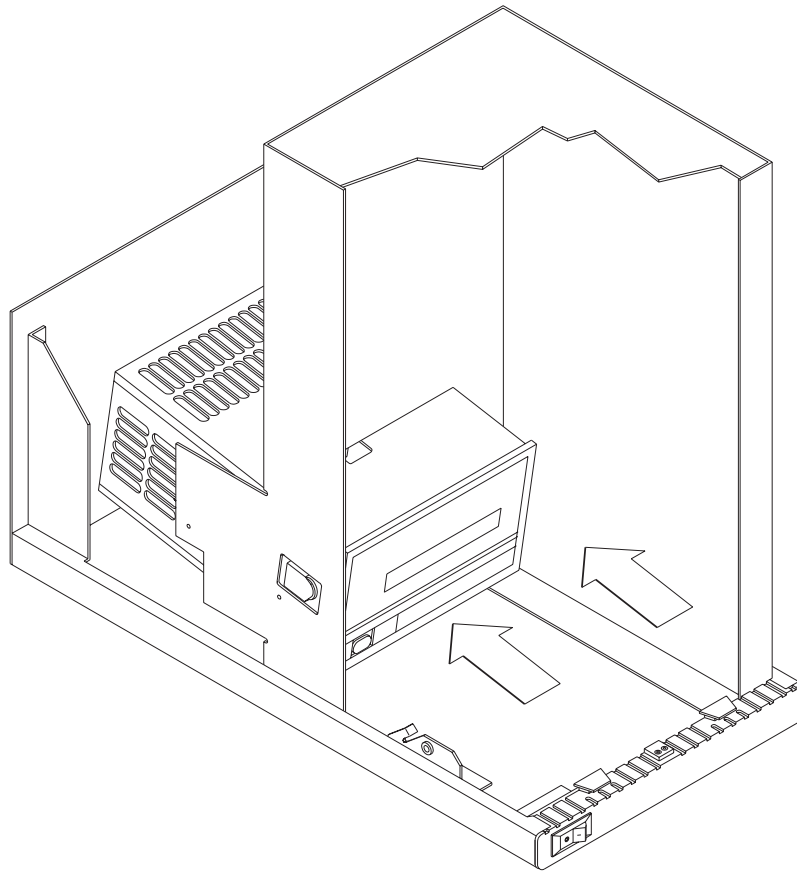

Figure 3-11 Installing the CTS
4. Hold the CTS by the top and bottom. From the front of the EXB-10i, slide the CTS into the EXB-10i enclosure so that the bottom of the CTS rests on the platform in the center of the EXB-10i. See Figure 3-11 for the correct position of the CTS.